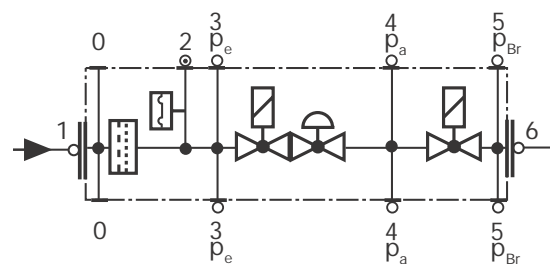
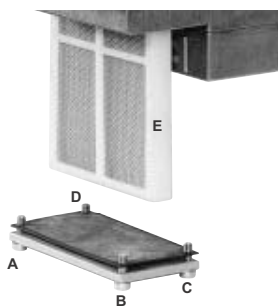

Fig. 47
Fig. 48
- Change the filter if the pressure difference between pressure connection 1 and 2 (Fig. 47-Fig. 48) $\Delta p > 10$ mbar.
- Change the filter if the pressure difference between pressure connection 1 and 2 (Fig. 47-Fig. 48) is twice as high compared to the last check.